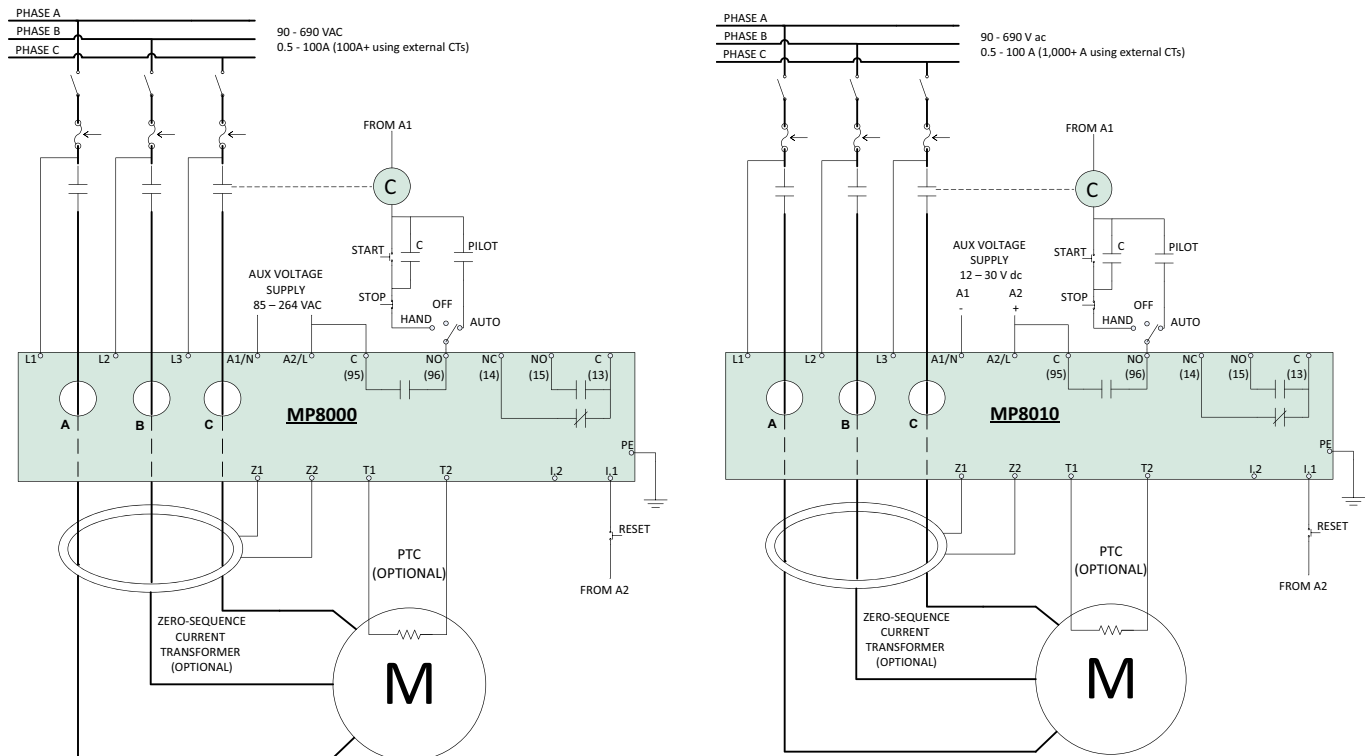

Figure 2.1 AC Connections - Across-the-Line Starting
Figure 2.1 shows across-the-line starting AC connections with optional ZSCT and PTC. Refer to Section 3: Installation for additional applications and the related connection diagrams.
- Connect the earth ground lead; see figure 2.1 for Power Supply Connections.